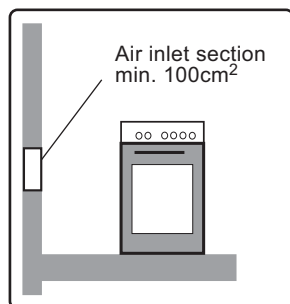

Figure 1
Create a space to install your hob, following the dimensions indicated on Figure1.
- Insert the hob into the hole and position it correctly. (Fig 1)